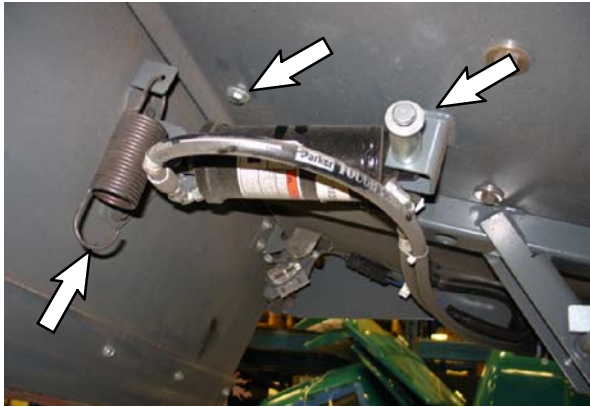

FIG. 1
1. Disconnect one of the tension springs from the hopper back panel. Refer to Fig. 1.
2. Remove the M8 SEMS screw from the hopper. Discard the removed nut. Refer to Fig. 1.
4. Reconnect the tension spring to the hopper back panel. Refer to Fig. 1.